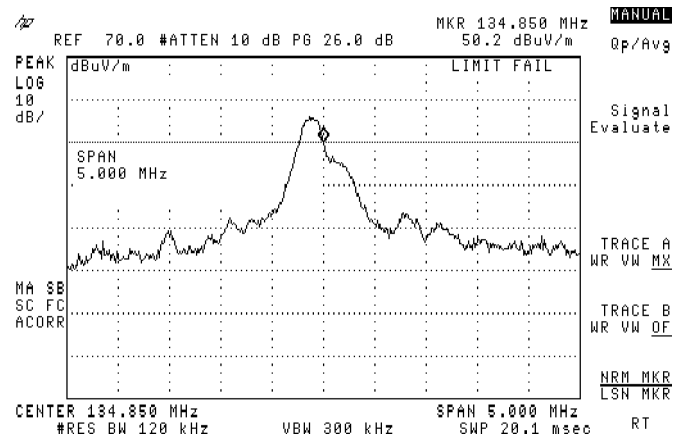

Figure 3-61. Trace A in Max Hold
9. Press **TRACE A WR VW MX**, **TRACE A WR VW MX** (MX will be underlined), to put trace A in max-hold mode. See Figure 3-61.